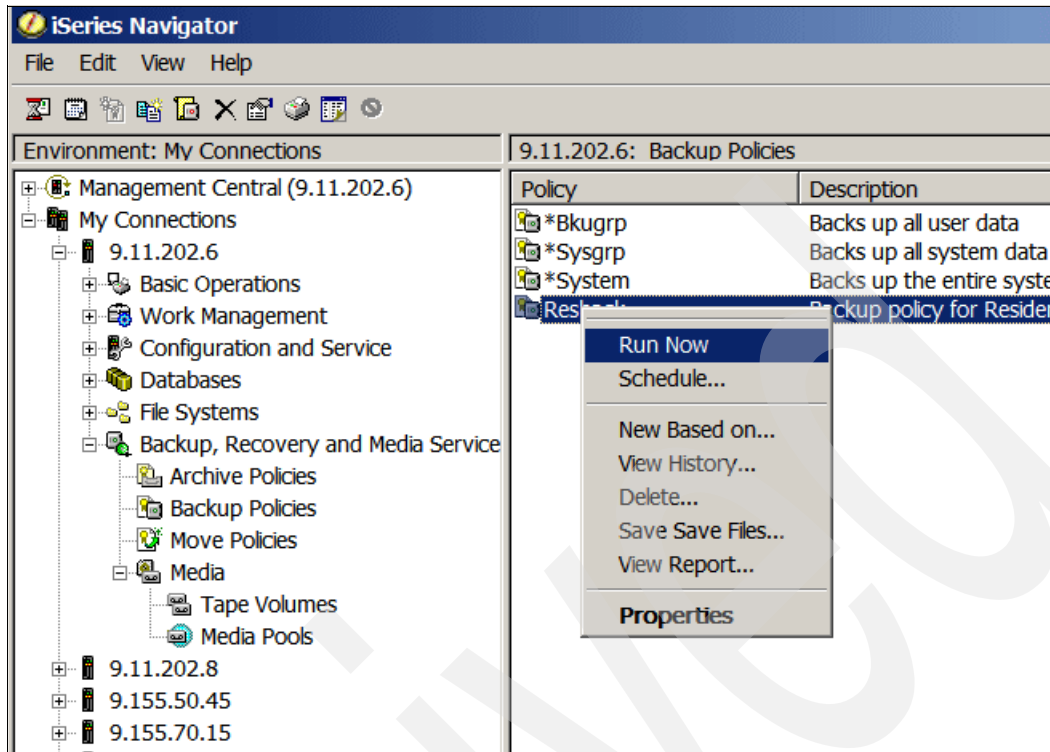

Figure 6-31 Run backup policy
1. Still in iSeries Navigator, expand Backup Recovery and Media Services and click **Backup policies**. This displays a list of backup policies in the right panel of iSeries Navigator. Right-click the created policy and select **Run Now** from the pull-down menu. This is shown in Figure 6-31.